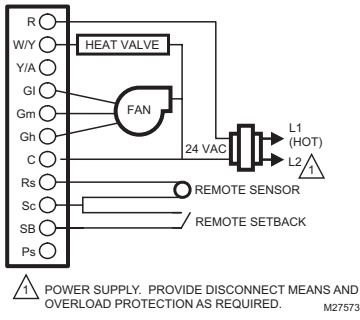

Fig. 14. Two pipes Heat-only wiring diagram (24 Vac shown).
- TB8575A1000 model, which is 24 Vac powered. Refer to Fig. 14–Fig. 20, beginning on page 8.